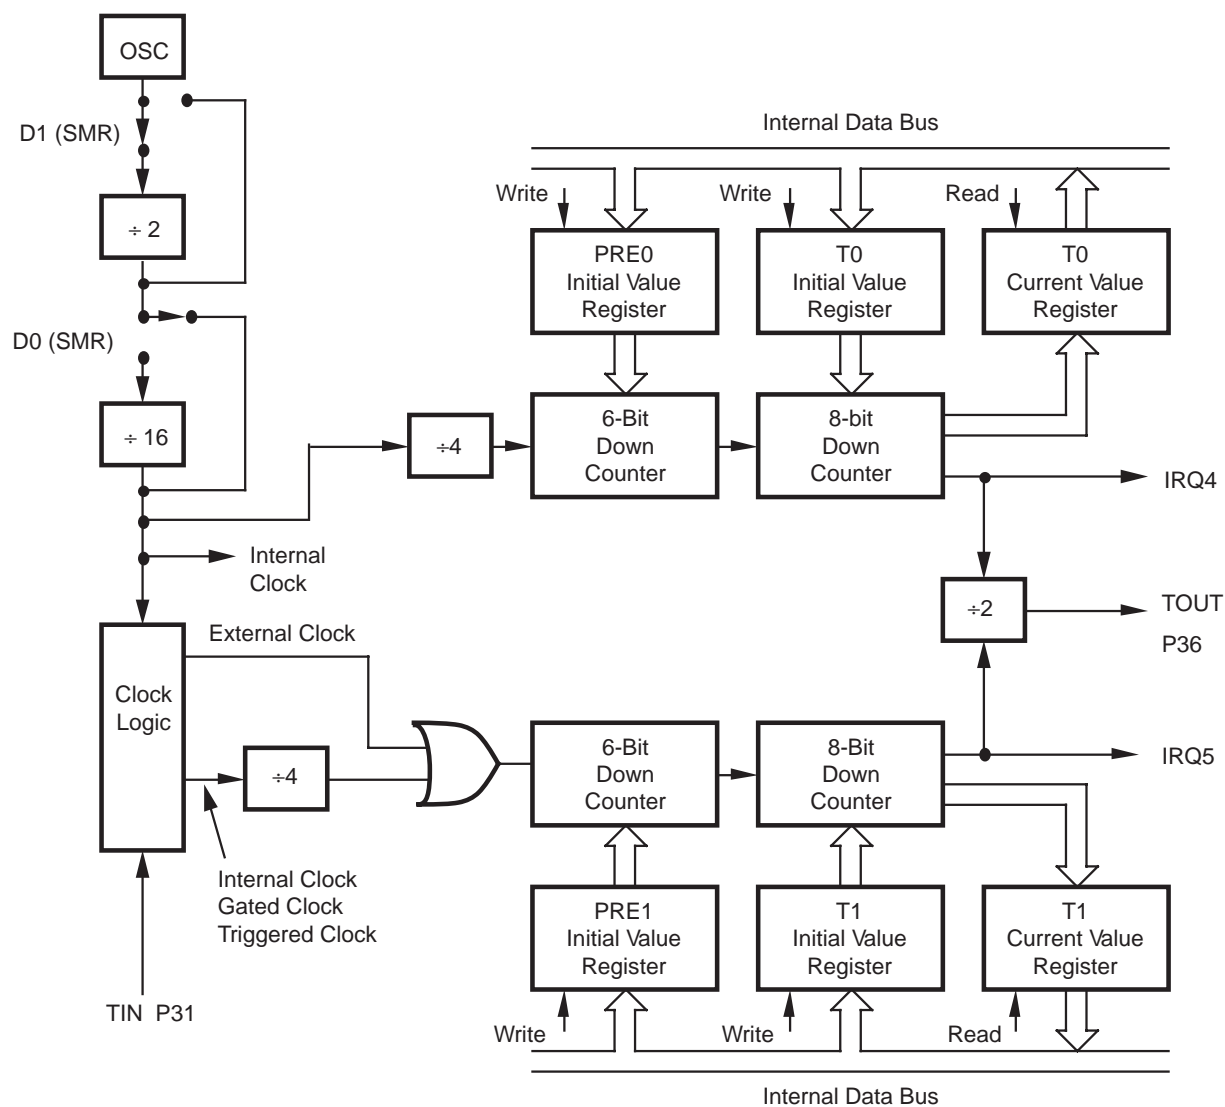

Figure 27. Counter/Timer Block Diagram
**Counter/Timers.** There are two 8-bit programmable counter/timers (T0 and T1), each driven by its own 6-bit programmable prescaler. The T1 prescaler is driven by internal or external clock sources; however, the T0 prescaler is driven by the internal clock only (Figure 27).